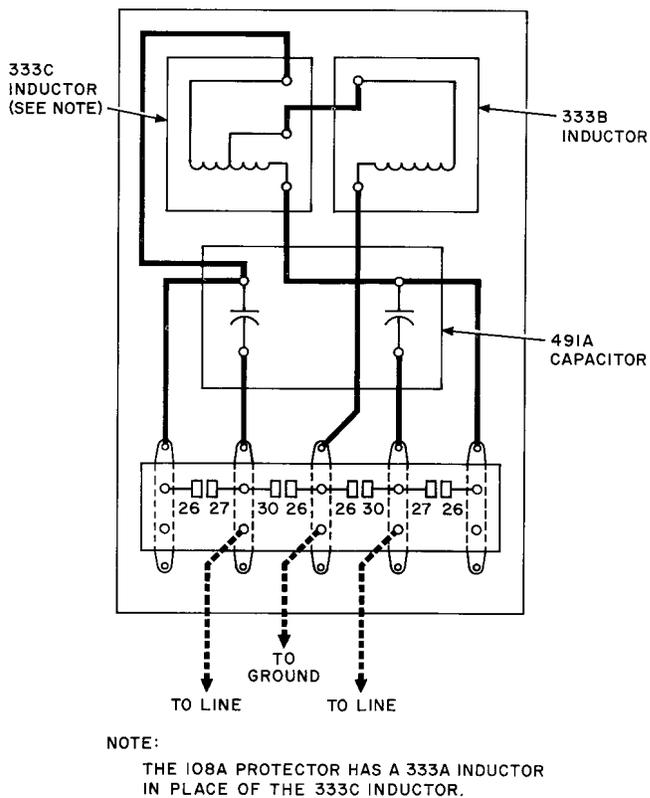

Fig. 4—Wiring Diagram of 108A and 108B Protectors
4.02 Fig. 4 and 5 illustrate the circuit arrangements of the 108-type protectors.
4.03 The 108A Protector can be converted to a 108B Protector by replacing the 333A Inductor with a 333C Inductor, following the wiring diagram in Fig. 4.